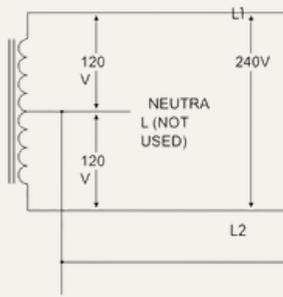

Figure 3: 220 V/240 V single phase
-  **CAUTION:** This is a single-phase device. Do not connect all three phases of a three-phase feed! You may use any two phases of a three-phase wye-transformer feed. The center point of the three phases (usually used as Neutral) must be grounded somewhere in the system. A Neutral connection is not required by the EVSE. Only Line 1, Line 2, and Ground are required, as shown in Figure 3.